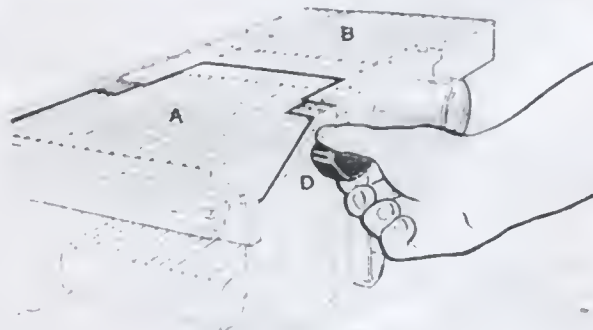
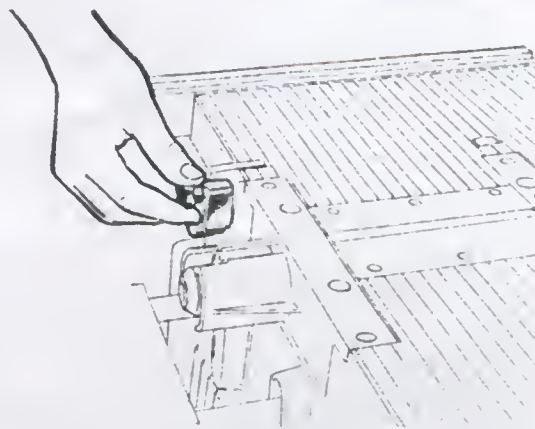

Fig. 4
Fig. 5
The surfacing planer is used to smooth wood surfaces. The tool consists of a cylinder with two knives mounted lengthwise 180° apart. The depth of cut can be set by adjusting the height of one of the tables (A); the other table (B) is fixed (**Figure 4**).
Turn elevating knob (D) clockwise to raise table (A) and counterclockwise to lower it (**Figure 4**). Table (A) can be locked in place by means of the table clamping knob shown in **Figure 5**.